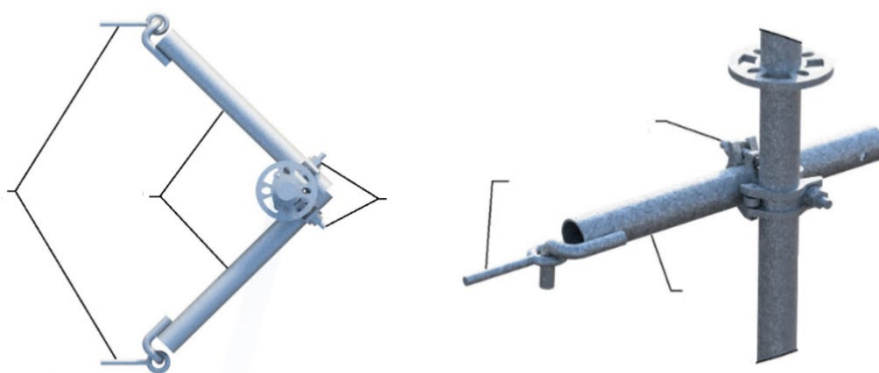

Figure 8 - Triangulated tie (left) and Single tie (right)
3.2.4.1. Single Tie: Wall tie anchors consist of an anchoring tube incorporating a specialized hook (3) or pigtail, which securely attaches to the designated wall tie plate or anchor (1). A right-angle coupler (2) is utilized to affix the anchoring assembly to the scaffold structure, ensuring stability and load transfer. See Figure 8.
3.2.4.2. Triangulated Tie: When direct placement of wall anchors is not feasible, triangulated anchors may be utilized at a 45° angle to maintain scaffold stability. A triangulated anchor assembly consists of an anchoring tube with a specialized hook (3) or pigtail that connects to the wall tie plate or anchor (1), couplers (2) that secure the assembly to the scaffold structure, and a wall anchor or plate for structural attachment. See Figure 8.